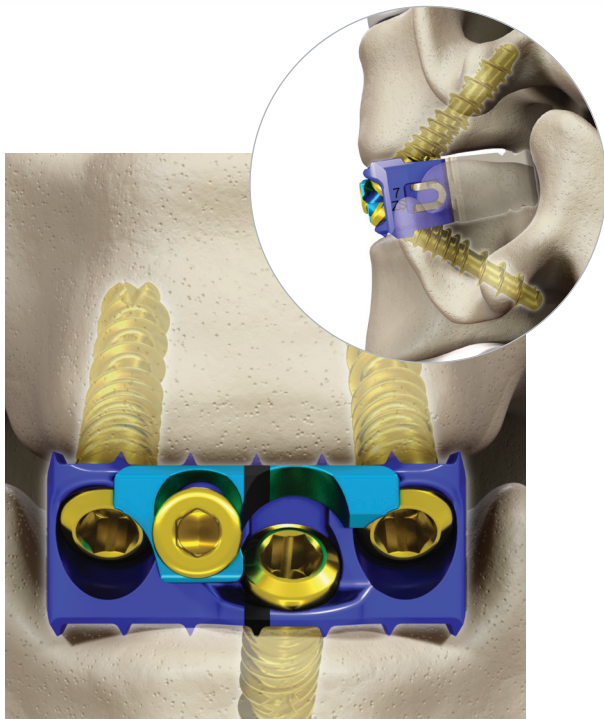

Figure 83
- Completely engage the 2.0 mm hex driver in each screw head and fully seat all bone screws (Figure 83).